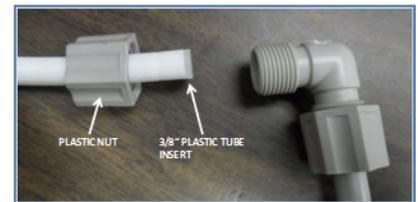

Figure 1. Brine Line Connections
3. Connect the brine line from the valve to the air check / safety elbow as per figure 1. Double check to make sure all connections are assembled correctly and the brass and plastic nuts are tight and secure to prevent leaks.